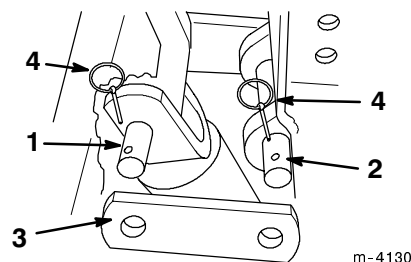

Figure 13
18. Slide the two links on each end of the tilt cylinder pin and the backhoe link pin and secure them with two lynch pins (Fig. 13).